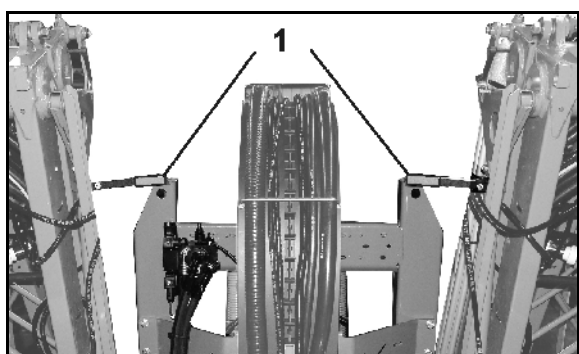

Fig. 11
- Fig. 11/...
(1) Visual check of the Super-S boom lock